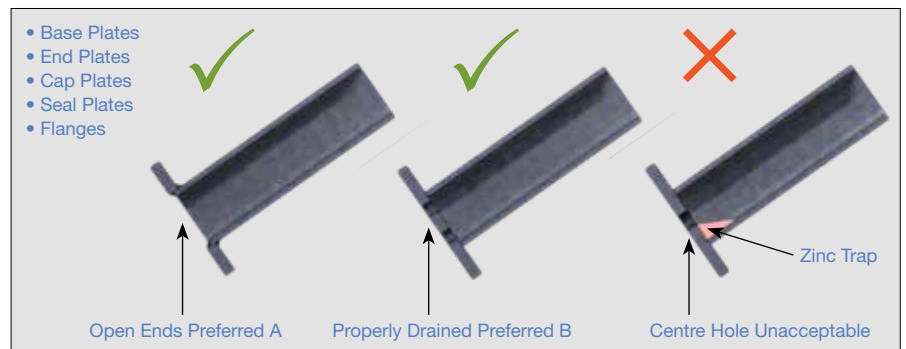

Figure 7: Hollow Section Ends - Inside View
- The preferred design option (Open Ends Preferred A in Figure 7) is to leave the ends of hollow sections completely open. This will improve the aesthetic quality of the fabrication.
- Where open ends cannot be provided, the provision of at least two holes positioned opposite each other. (as shown in Figure 7 and the Preferred B option in Figure 8)
- Holes only located in the centre of a hollow section, as shown in Figure 7 and 8, are unacceptable and will result in poor quality outcomes. Acceptable use of a centre hole is shown in the photo above.
- Vent and drain holes shall be located as close as possible to the high and low points of the hollow section when hung to prevent air locks, entrapment of pre-treatment solutions and zinc pooling as well as being oriented in the same plane as the fabrication (Figure 7).
- Holes **must not** only be located in the centre of end plates and connections. This will cause cleaning fluids to be trapped and result in uncoated surfaces inside the plate or connection as well as potential 'blowouts' where the cleaning fluids are expelled from the hole under pressure creating bare spots on the finished article. On withdrawal from the galvanizing bath, centre only located holes will trap zinc (Figure 7).